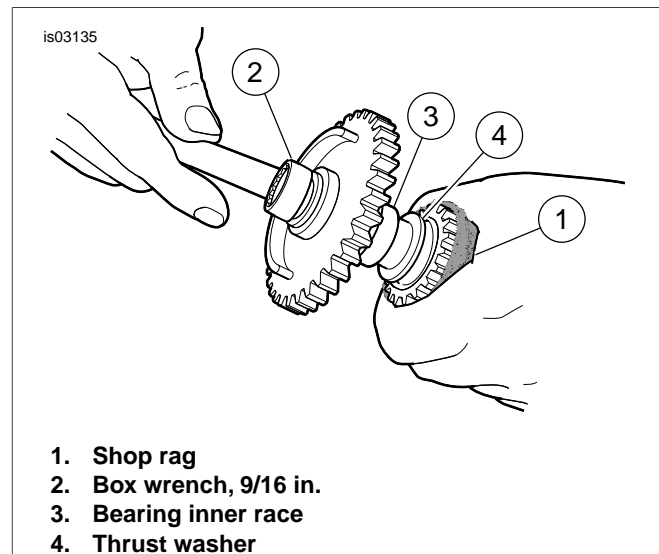

Figure 2. Install Bearing Inner Race (with O-Ring and Washer)
- e. See Figure 2. Wrap a shop rag (1) around camshaft to get a firm grip and also to protect hand from sharp edges of sprocket. Using a 9/16 in. box wrench (2), turn flange screw in a clockwise direction. Bearing inner race (3) is fully installed when it makes firm contact with the thrust washer (4).